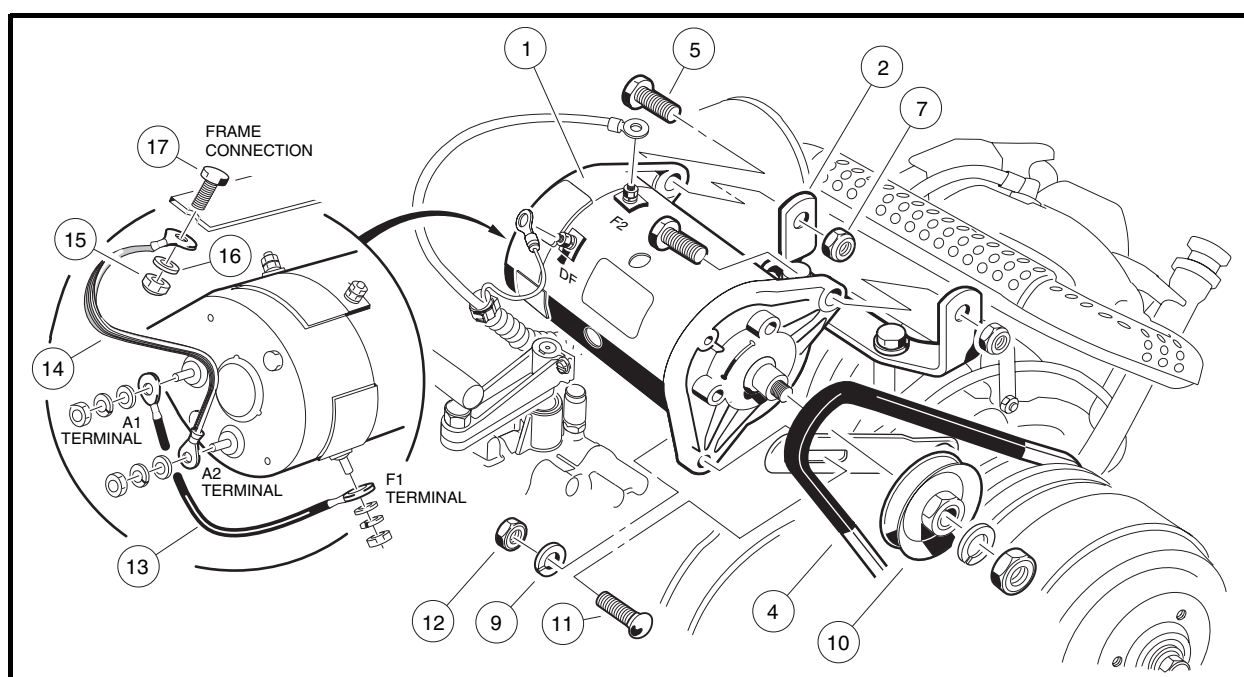

Figure 12-1 Starter/Generator Removal
3. Mark and disconnect the wires from the starter/generator (1). Loosen the two pivot nuts (7) and bolts (5) (Figure 12-1, Page 12-1).